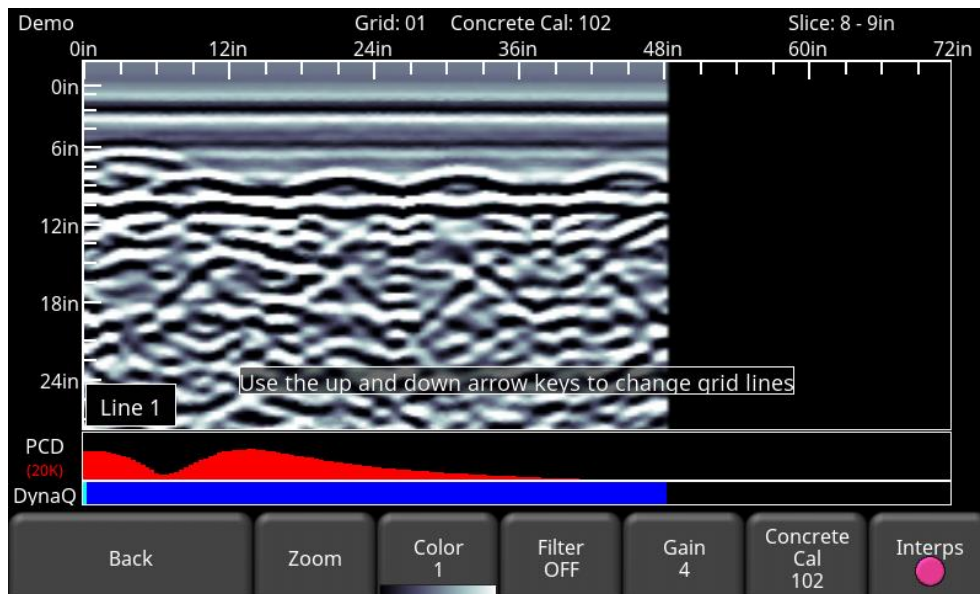

Figure 8-3: To display a Grid Line in full screen, press the LineView button
- **LineView** – Press this button to display the currently selected grid line on the full screen (Figure 8-3).